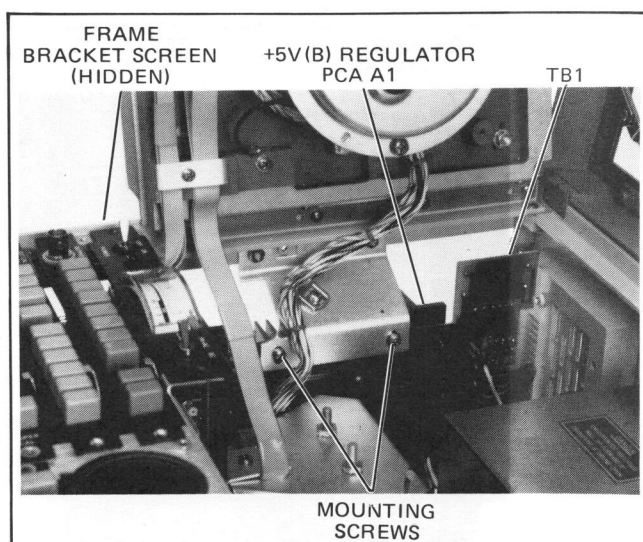

Figure 5-61. +5V(B) Regulator PCA Removal
- d. Disconnect the wires from TB1 (see Figure 5-61). Note wire colors for reinstallation.
- f. Remove the screws which retain the regulator PCA (see Figure 5-61).